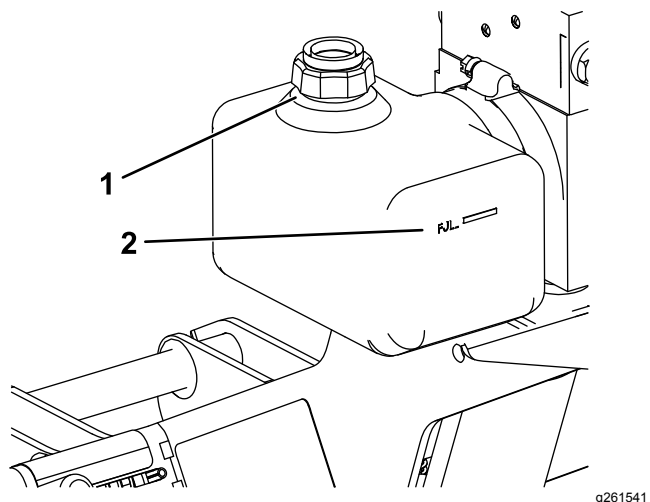

Figure 26
- Ensure that the fluid comes up to the fill line on the side of the tank (Figure 26). If it does not, add more hydraulic fluid; refer to Adding Hydraulic Fluid (page 16).